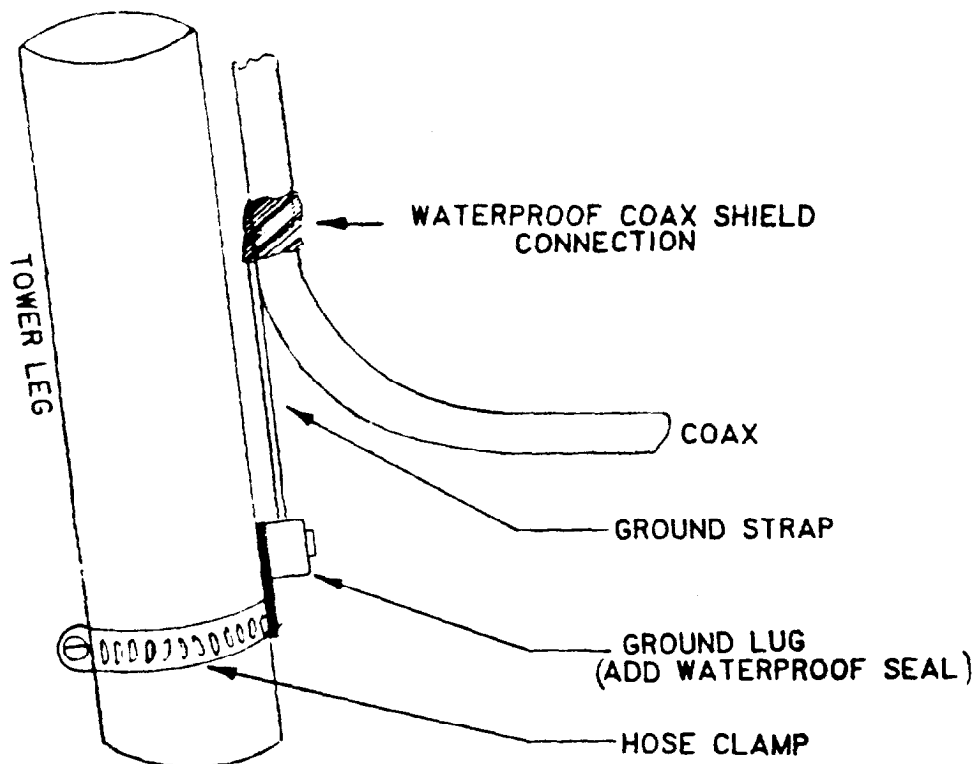

Figure 5
13. The grounding procedure for a round leg tower is accomplished by using a ground lug connection to an exposed spot on the tower leg and held in place with a hose clamp. For this procedure we recommend NO DRILLING be done. Locate the correct ground point on the tower. This point should be so located that the ground strap is nearly vertical and as short as possible (see Figure 5).
15. Clamp the ground lug to the exposed surface of the tower with the large stainless hose clamp as illustrated in Figure 5.